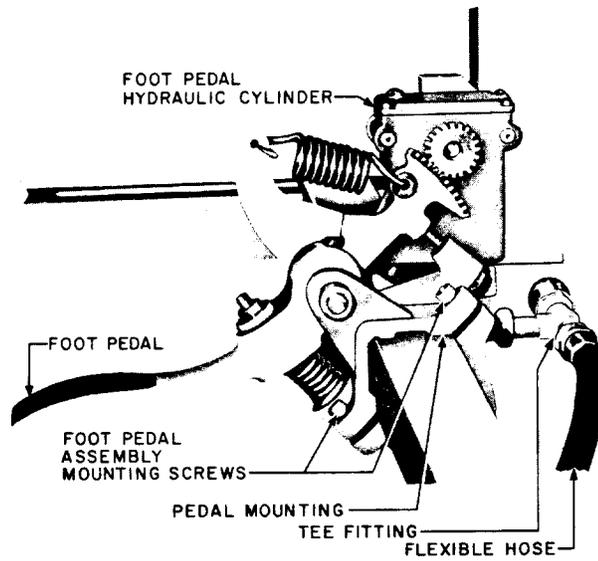

Fig. 3 - Foot-Pedal Assembly (drip pan and covers removed)
4.03 Hold the connector of the hose fitting at the tubing end with the R-1542 wrench and unscrew the nut engaging the connector with a second R-1542 wrench. Disengage the connector from the tubing. Then hold the tee fitting on the hydraulic cylinder (Fig. 3) with the R-1542 wrench and disconnect the hose using the 245 wrench. Remove the foot-pedal assembly mounting screws using the R-2812 wrench and remove the assembly. Remove the drip pan and cloth.